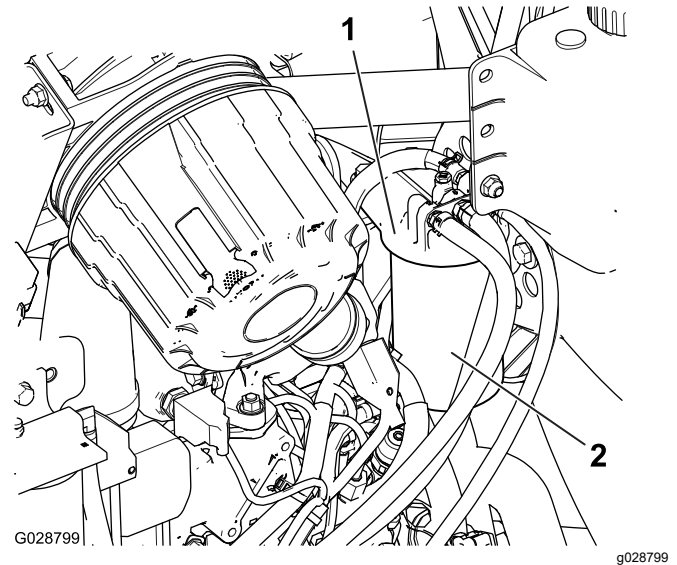

Figure 50
1. Clean the area around the fuel-filter head (Figure 50).
2. Remove the filter and clean the filter head mounting surface (Figure 50).